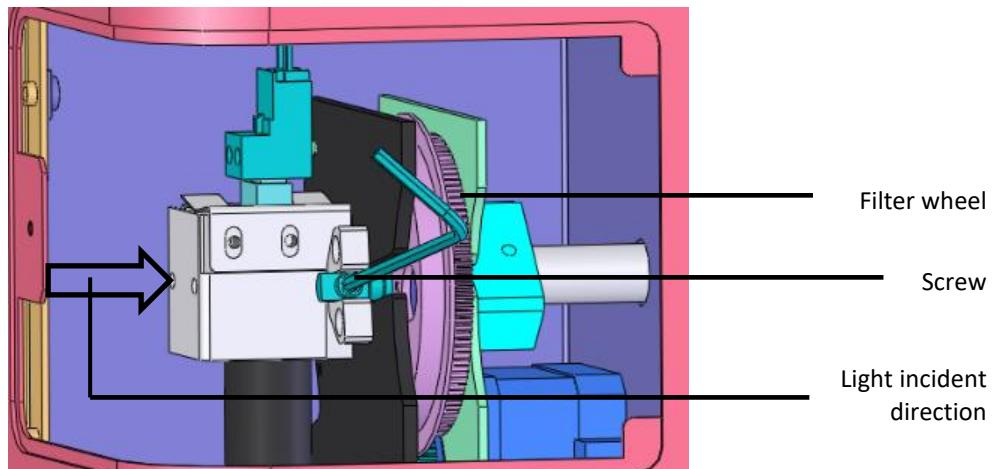
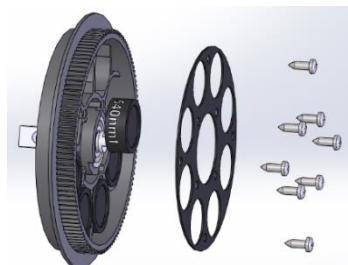

Fig 57 Remove the filter wheel
Fig 58 Unscrew the fixing plate
3. Loosen the knob at the rear side to open the back door and remove the optical filter wheel using the included Allen key. See Fig 57 below.
5. Remove the fixing plate by removing the screws (Fig. 58) and insert the new filter in the desired empty position. Make sure that the filters do not fall out since the fixing plate has been unscrewed! The arrow direction on the filter should be the same as the light incident direction. See Fig 57 below.